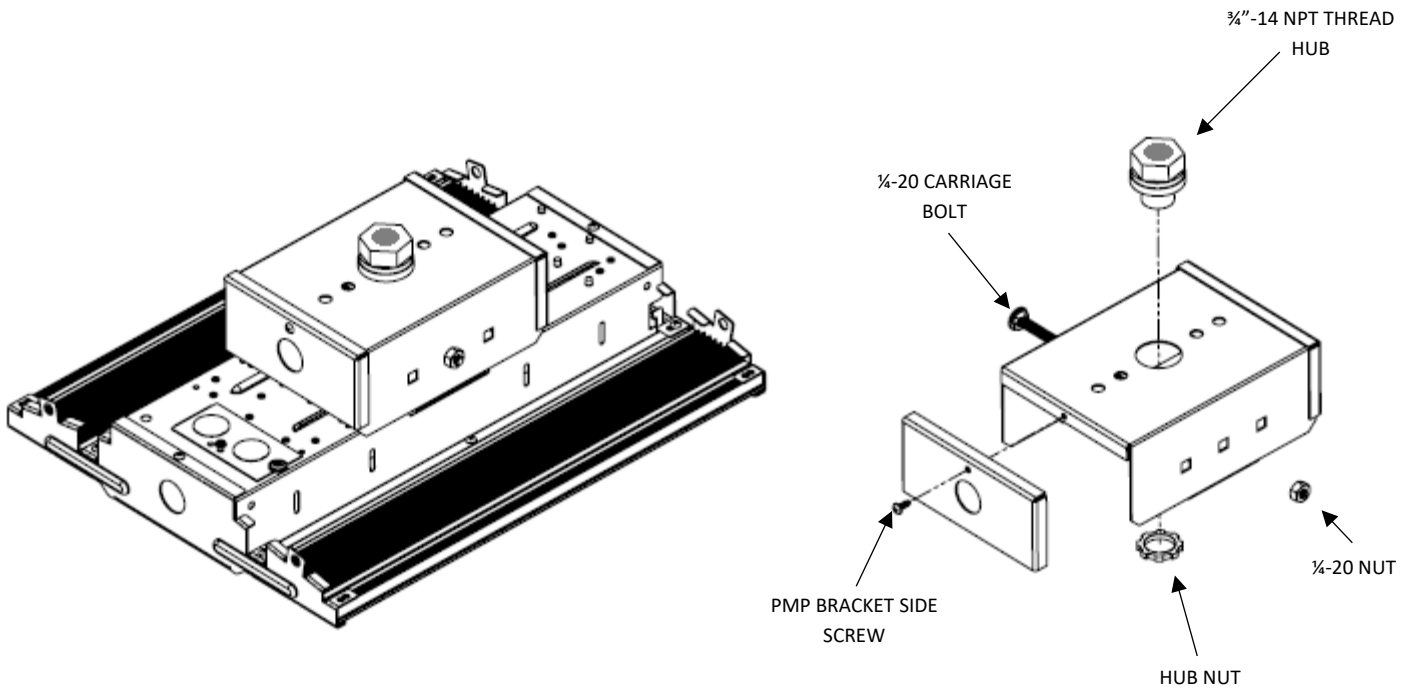

FIGURE 8 (PMP)
3. Install supplied nut and lock-washer. Properly tighten nut to secure PMP bracket around center channel- **See Fig 8.**
5. Attach PMP Bracket sides with screws, one each- **See Fig 8.** Ensure wires are not pinched.